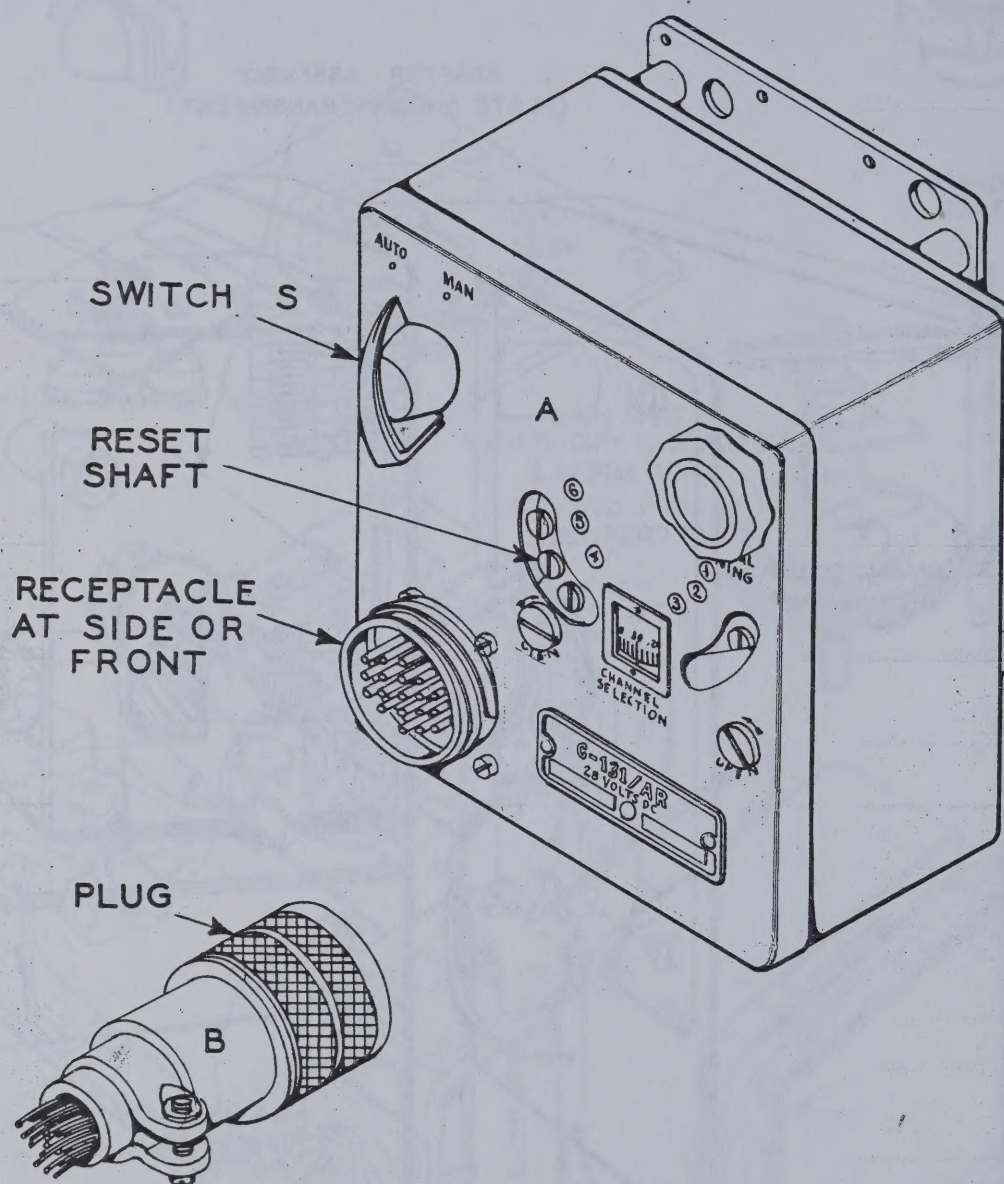

Figure 4 — Automatic Selector Mechanism with Plug Connector
a. **PURPOSE OF MANUAL.**—This manual has been prepared to supply information to authorized personnel on the installation, adjustment and operation of the Automatic Selector Mechanism (Spot Tuner). See Fig. 4.